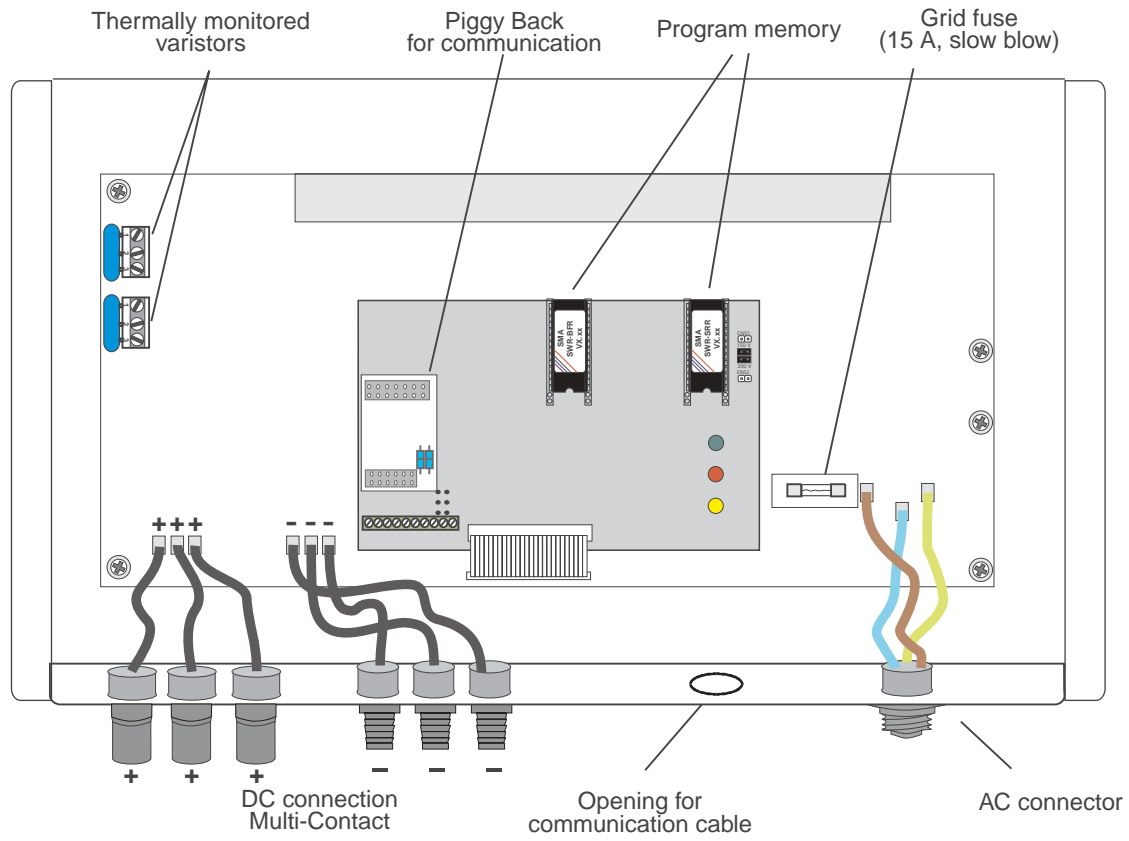

Fig. 5.3: Interior of the Sunny Boy 3000
- Remove the two internal thermally monitored varistors (see Fig. 5.3 “Interior of the Sunny Boy 3000”) with a screwdriver.
If you do not find any failure have the grid connection to the Sunny Boy checked by a qualified electrician. Check the correct connection and the fuse in the Sunny Boy (see Fig. 5.3: Interior of the Sunny Boy).